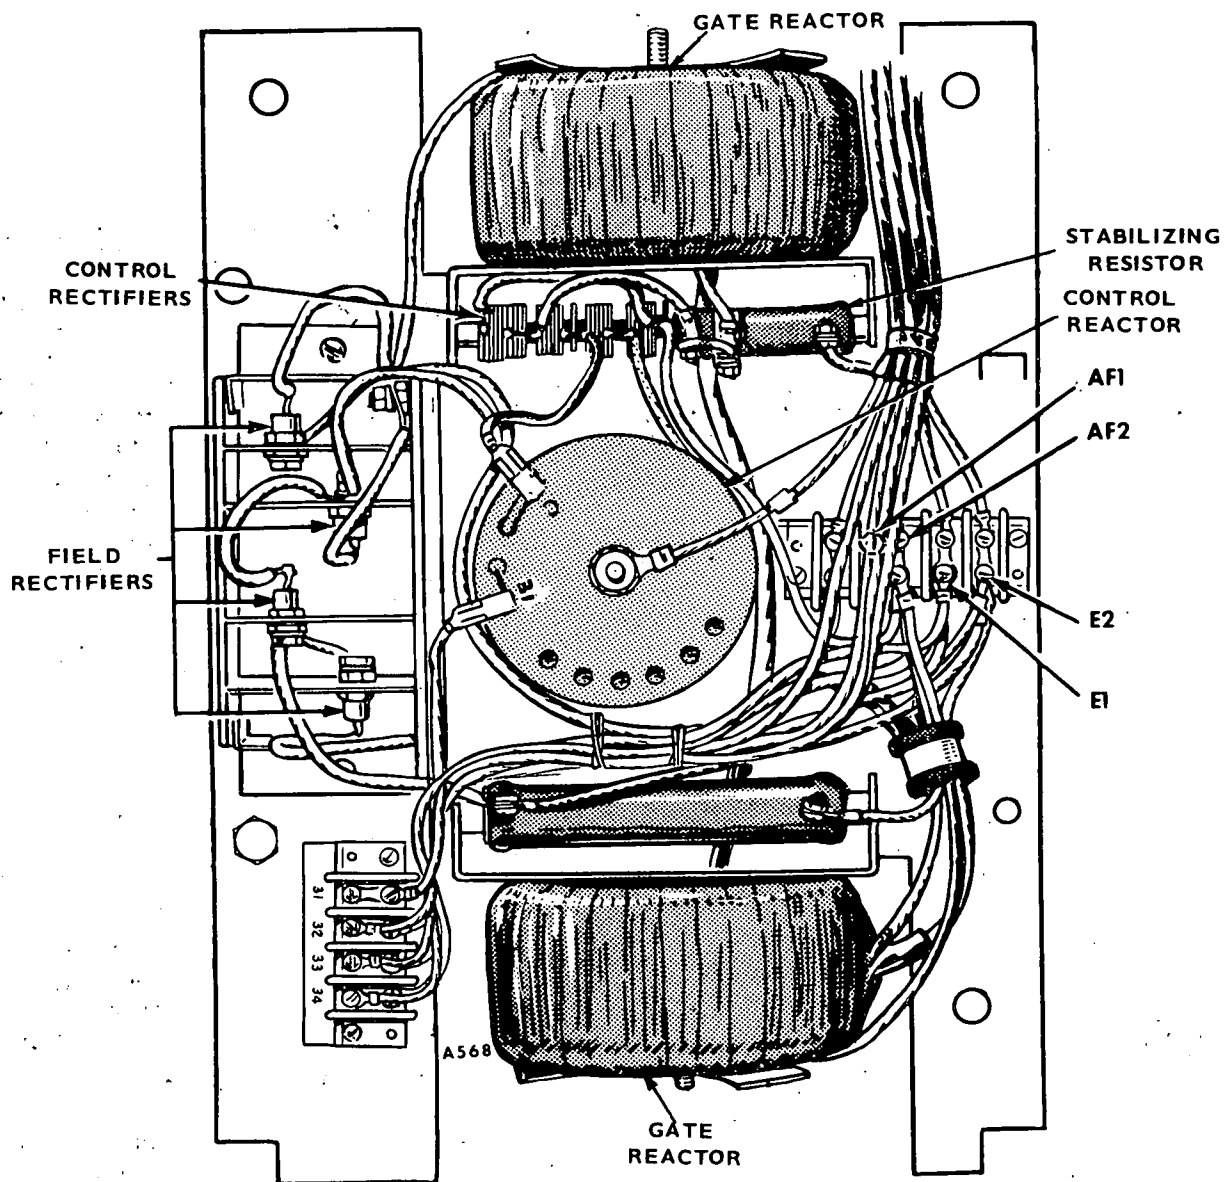

FIG. 6-14. STATIC EXCITER ASSEMBLY (COVER REMOVED).
2. Remove the control box mounting screws (4) which secure the control mount to the generator frame. Remove the control box. In some cases it may be necessary to remove the control box from its shock mountings and base to facilitate leadwire removal.
3. Remove the cap nuts (4) which attach the exciter cover and remove the cover. Disconnect the leadwires which come from the generator to the exciter (check leadwire markings for legibility). Remove the capscrews (6) which secure the exciter to the generator end bell and remove the entire exciter assembly (Fig. 6-14).
4. Remove the centrifugal switch (item 8) from the end bell (13) and rotor shaft. Remove the end bell covers (items 9, 9A). Slip the brushes (item 7) and springs (item 6) from brush rig (item 5) - it is not necessary to disconnect the brush leads unless brush replacement is required.
5. Block the rear of the engine in place by supporting the flywheel housing. Remove the narrow generator band (item 14). Remove the large capscrews which secure the generator mounting pad (item 19) to the skid base. Remove the capscrews which secure the stator assembly (item 4) to the engine flywheel housing.
6. Using an overhead hoist and sling, slide the stator assembly (item 4) off the rotor assembly (item 1). CAUTION: Do not damage the brush rig (item 5) while removing the stator.
7. Remove the brush rig (item 5), large generator band (item 15), and the end bell (item 13) from the stator assembly (item 4) if required.
8. Attach the hoist and sling to the rotor assembly (item 1) and apply a slight lift to support the rotor. Remove the bolts which secure the flexible drive coupling to the engine flywheel and pull the rotor from the engine.
9. Pull the bearing (item 3) from the rotor shaft if required with a wheel or gear puller. If required, remove the blower (item 2) from the rotor and the air scroll (item 11). Refer to the Parts Catalog for replaceable parts and assemblies.